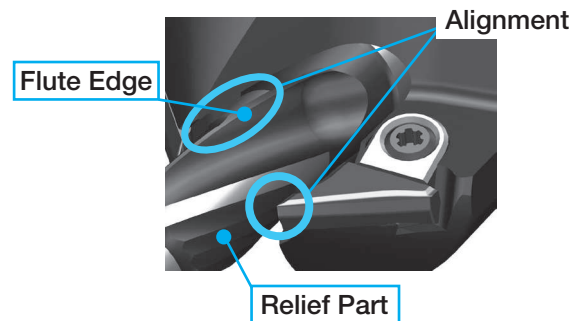

fig. 4 DRA Alignment
4. Align the flute edge and black relief part of the drill to the position shown in Fig.4 by rotating the DRA drill.